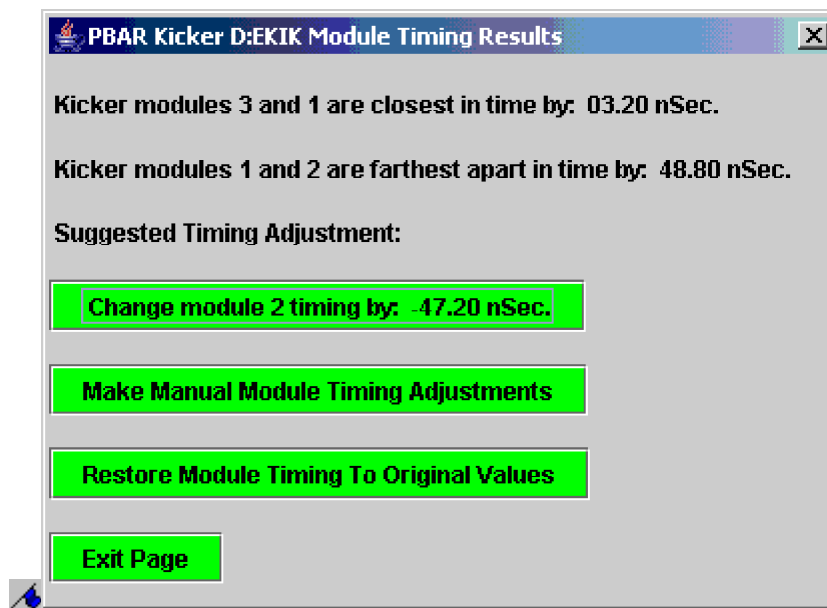

Figure 29:
7. The Timing Results window (see Figure 29) presents the results and suggested tuning options. If the changes look reasonable, then make the suggested changes. It is normal to make ~200nsec changes.